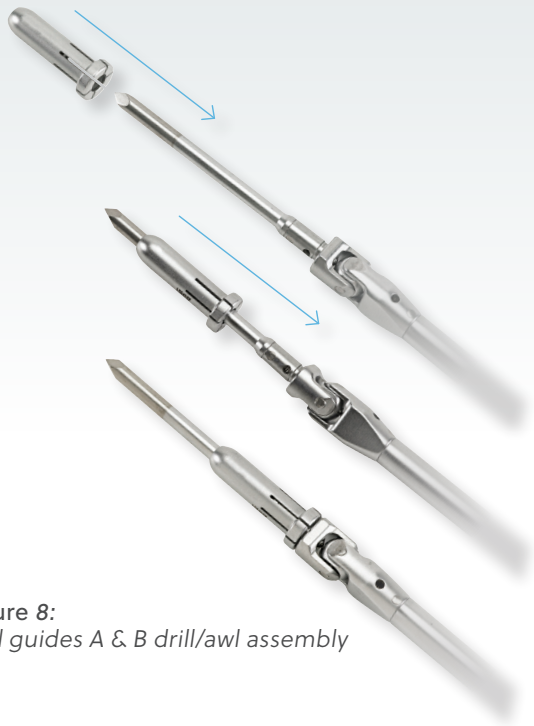

Figure 8:
- For the u-joint drill or u-joint awl, insert the drill guide adapter onto the tip of the instrument (**Figure 8**).